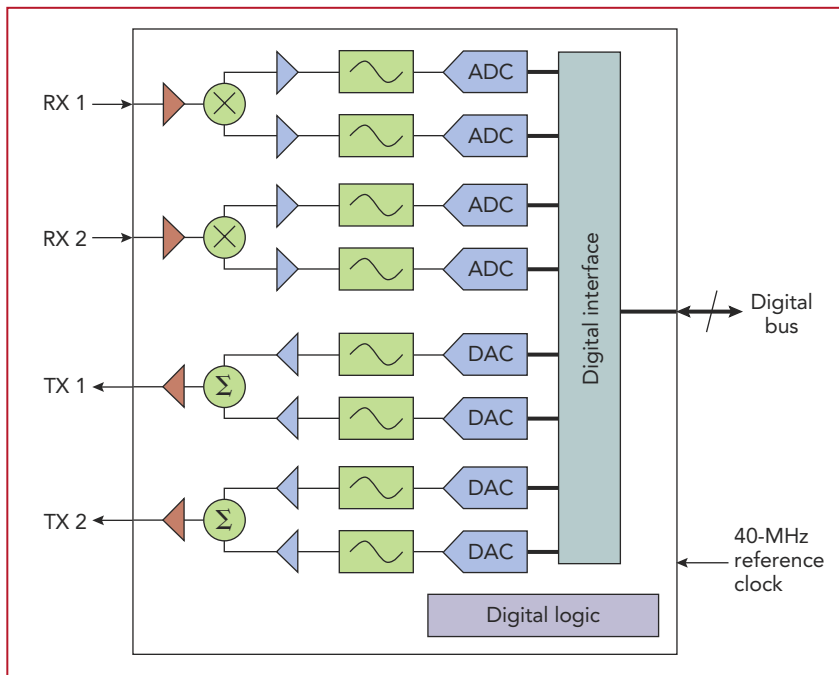

FIGURE 2. This WiMAX 2x2 MIMO transceiver block diagram illustrates a typical RF MIMO transceiver with digital interfaces and multiple RF ports.
In early mobile devices, in-phase (I) and quadrature (Q) information would pass from the baseband processor to the RF portion of the device in analog format. In today's highly integrated devices, the ADCs and DACs reside in the same package as the RF circuitry, making the link between the RF device and the digital baseband processor a digital data bus. Moving the ADCs and DACs out of the baseband processor and into the RF device allows the processor to be fabricated on the smallest lithography possible, which reduces BOM (bill of materials) costs. **Figure 2** shows the layout of a typical RF MIMO transceiver with digital interfaces and multiple RF ports.